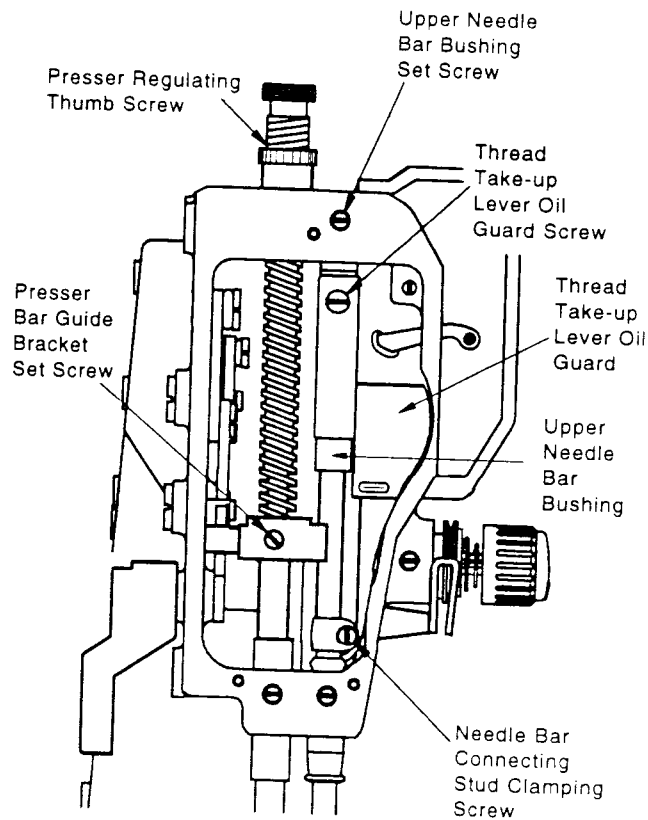

Fig. 22
3. Loosen presser bar guide bracket set screw just enough to move the presser bar. Slide presser bar up through presser bar bushing and out of machine. (Fig. 22)
16. Replace presser regulating thumb screw. (Fig. 22, page 14)